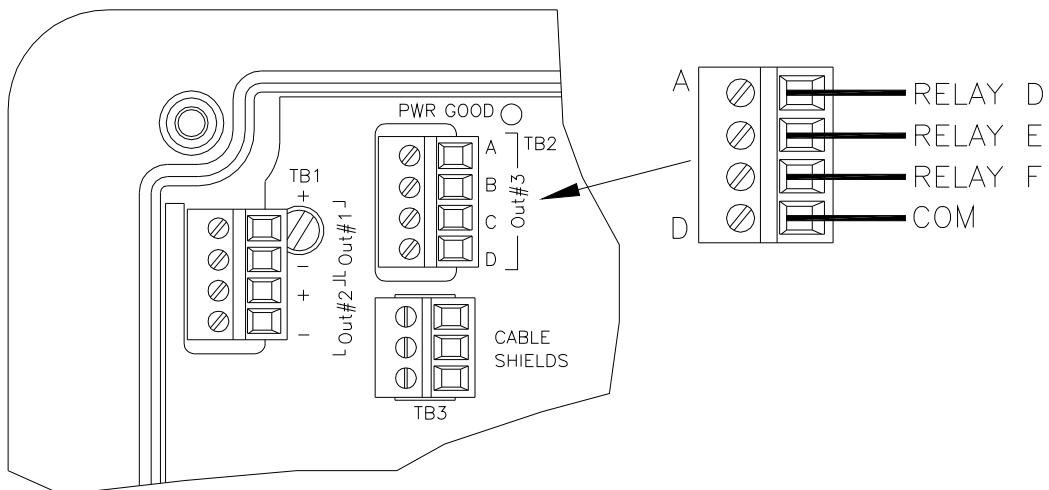
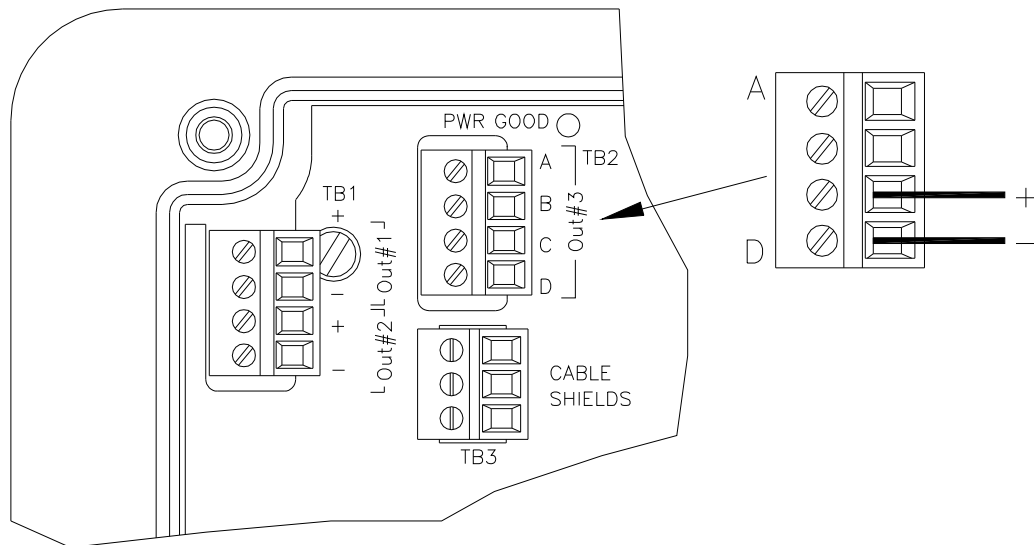

Figure 11 - Optional Relay Board Wiring
Figure 12 - Optional Analog Output Wiring
**TB2**, is used to connect to the optional 3-relay card (Figures 11) **OR** the optional third analog output, Out#3, (Figure 12). The Q46 can be configured for only one of these optional features, and the hardware for either option must be factory installed.